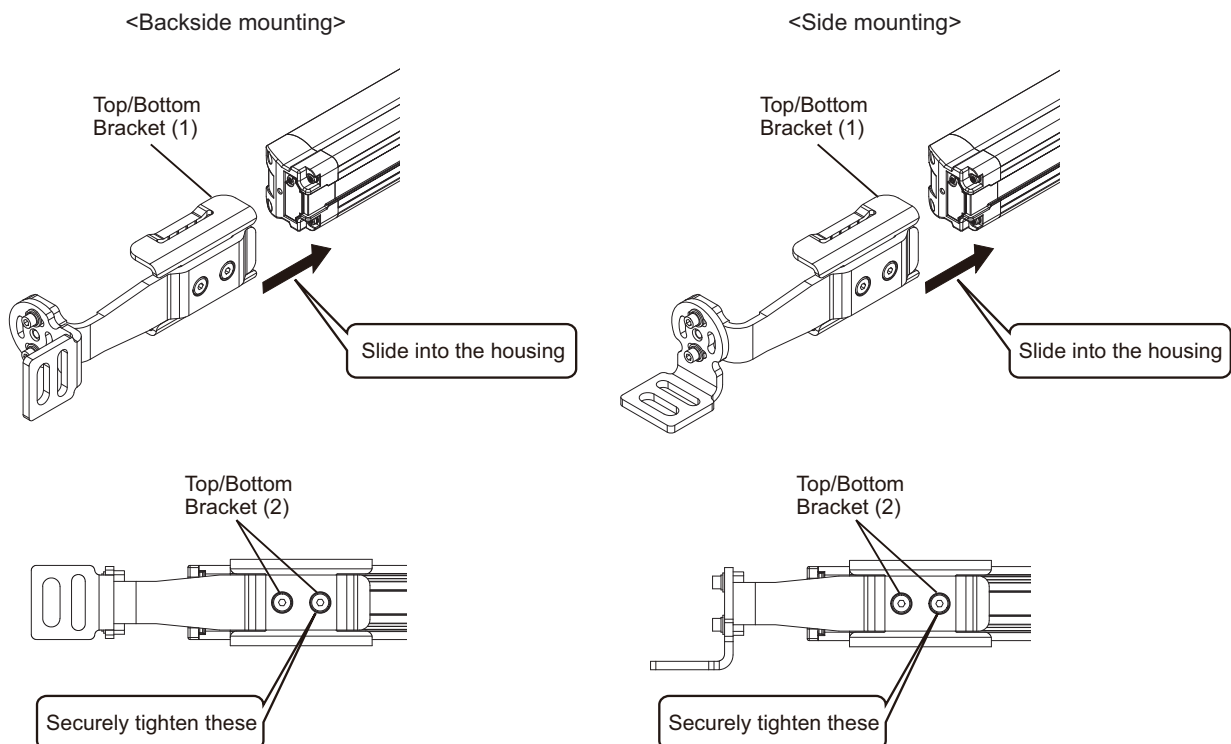

Fig. 2
2. Slide the Top/Bottom Bracket (1) in the grooves of the F3SG-R housing. Adjust the Top/Bottom Adjustable Bracket to the mounting position of the wall surface. Make sure to position the whole body of the Top/Bottom Bracket (1) within the yellow area of the housing. Securely tighten the Screw (2) to fix the Top/Bottom Adjustable Bracket to the housing of the F3SG-R. The recommended torque to tighten the Screw (2) is 3.0 N·m. (Fig. 2)